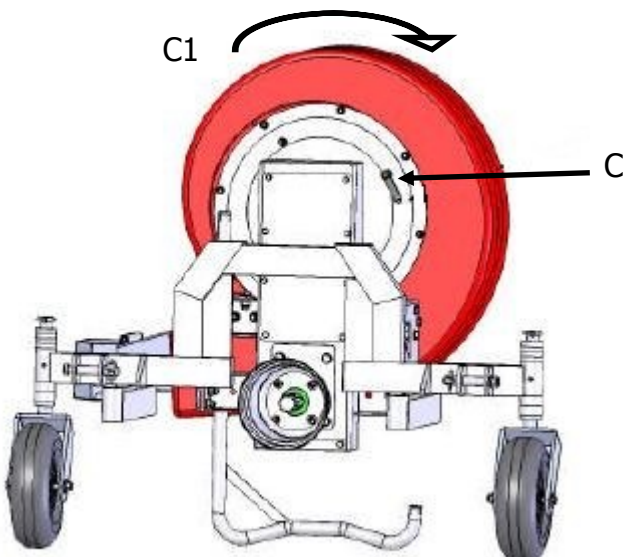

Fig 6
1. The complete poly housing may be rotated. Release Clamp handle C (Fig. 6). The Plastic housing is now free to rotate to the desired direction. Retighten clamp handle C (Fig. 6), when the required position has been achieved.